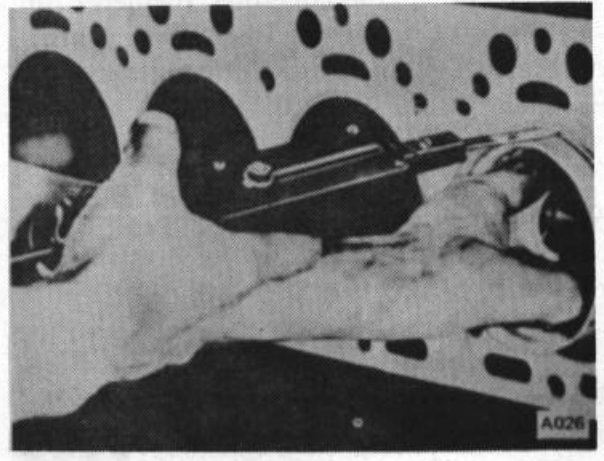

Figure 25.
2. Insert the feeler between the piston and the cylinder, midway between the piston pin bosses. When the correct fit is obtained, a pull of 5-10 pounds on the scale will be needed to withdraw the feeler. (Fig. 25) The pistons must be fitted with the block and pistons at room temperature (68°-70°F).